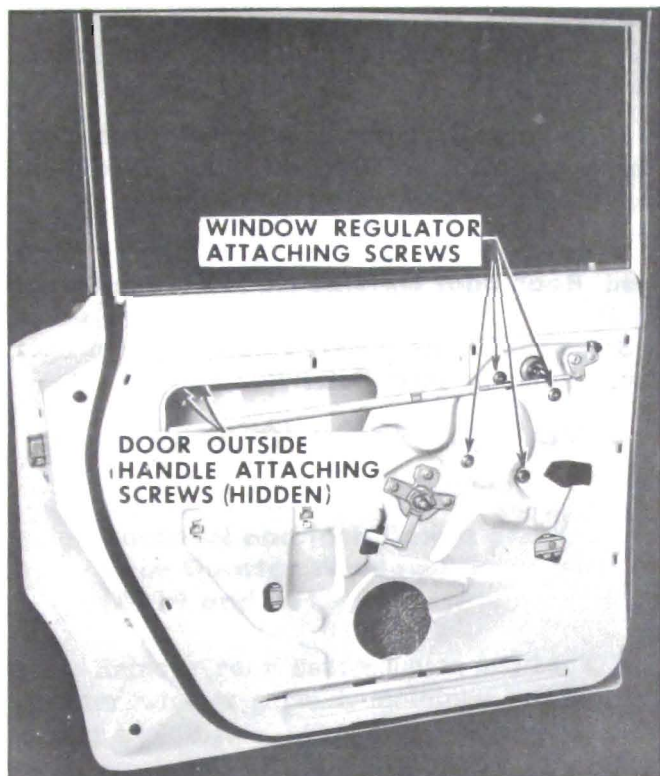

Figure 13-53—Window Regulator and Outside Handle Attachment
4. Remove window regulator attaching screws (see Figure 13-53). Carefully move regulator assembly rearward to disengage regulator arm roller from inner panel cam; then remove regulator from door.
2. Remove screws securing outside handle and remove handle and gaskets. See Figure 13-53.